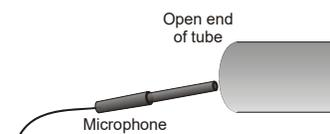

Figure 2
3. Place the Microphone as close to the end of the long tube as possible, as shown in Figure 2. Position the Microphone so that it can detect the initial sound and the echo coming back down the tube.